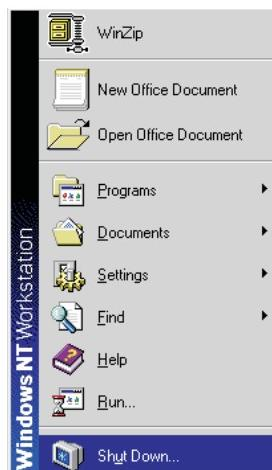

Fig.1
Step 1 : Click on the Start button (Win95, Win98 or Win NT) and choose " Shut Down... ". as shown in Fig.1